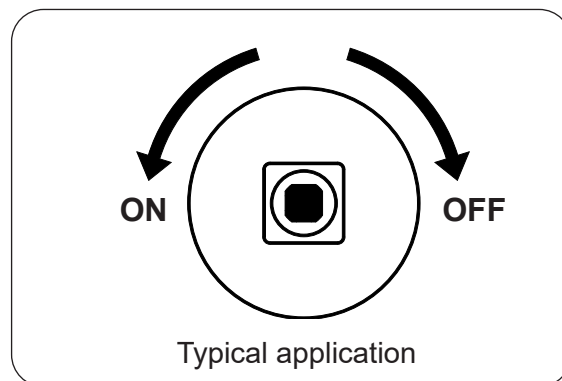

Fig. 15-2
4. **Once the flame is in position**, slowly turn the key valve counter-clockwise toward the **ON** position until it no longer rotates (see Fig. 15-2). Your burner should light.
To extinguish your gas burner, turn the key valve clockwise toward the **OFF** position until it no longer rotates (see Fig. 15-2). Be sure the key valve is turned fully off to avoid any gas leakage.